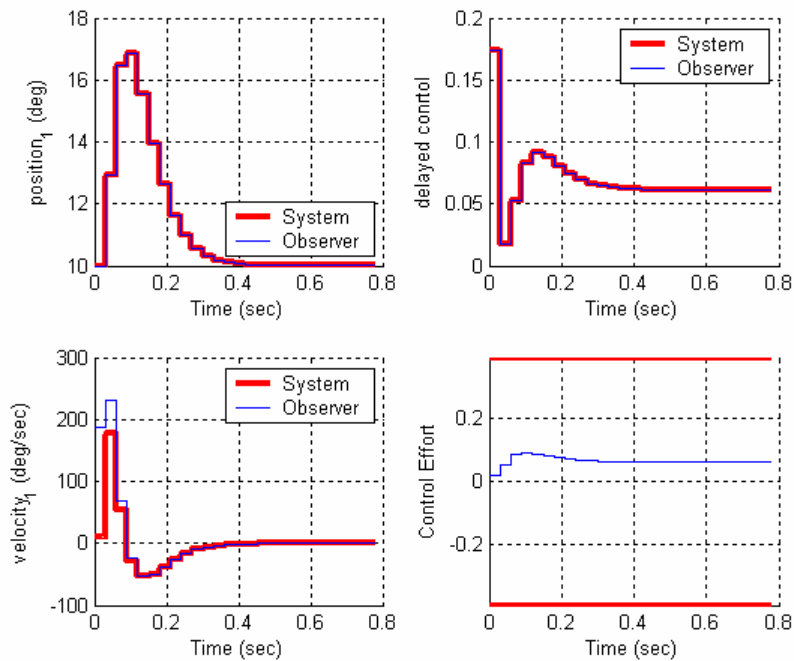

Figure 3. Results for problem **1d**.
d) For the same conditions as c, but with a sampling interval of 0.03 seconds. For a 10 degree step input you should get the graph shown in Figure 3. Turn in your plot.